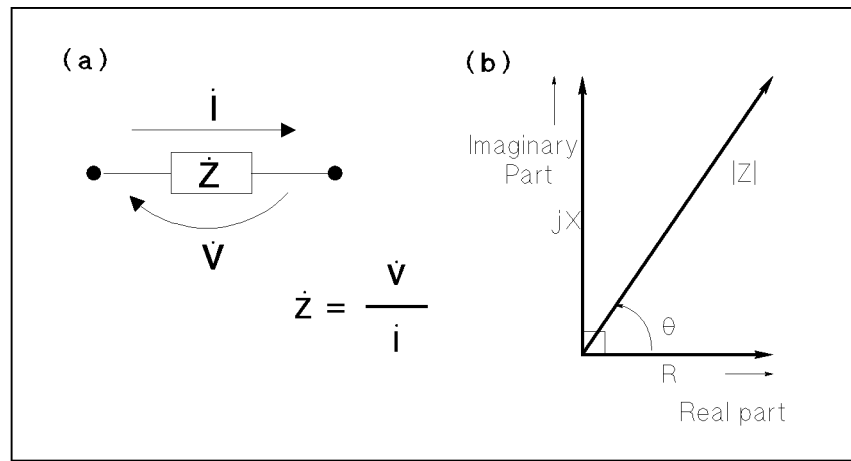

Figure 7-1. Definition of Impedance
Figure 7-1, (A) shows the complex impedance definitions and (B) shows the vector representation of complex impedance. Impedance, \hat{Z} is the total opposition that a circuit or device offers to the flow of alternating current at a given frequency. \hat{Z} contains a real and an imaginary part, and it is expressed in rectangular form as Resistance and Reactance, or in polar form as magnitude of Impedance and Phase as follows.